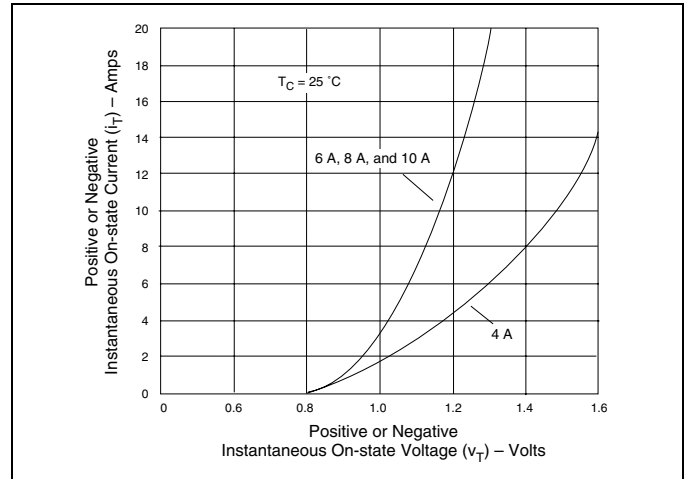
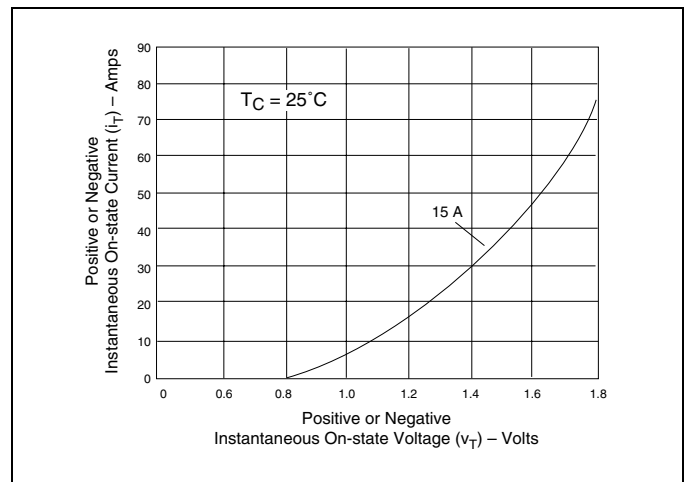

Figure E3.4 On-state Current versus On-state Voltage (Typical) (4 A to 10 A)
Figure E3.5 On-state Current versus On-state Voltage (Typical) (15 A)
- See Figure E3.4 and Figure E3.5 for i_T versus v_T .